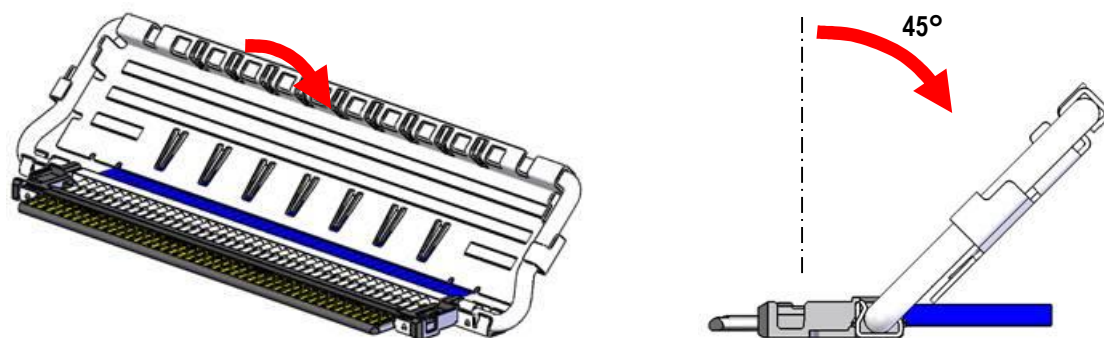

Fig.7 Tilt Lock Bar Assembly
- ① As shown in Figure 7, lock bar assembly is tilted to the cable side 45 deg.